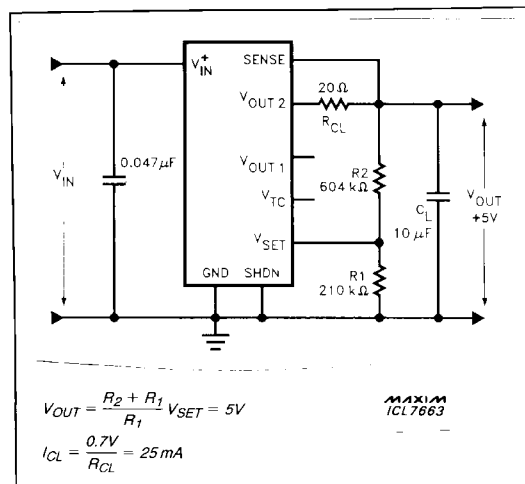

Figure 3. Maxim's Application of ICL7663 (Positive Regulator, Current Limit).
**Note 4:** This output has a positive temperature coefficient. Using it in combination with the inverting input of the regulator at  $V_{SET}$ , a negative coefficient results in the output voltage. See Figure 3 for details. Pin will not source current.
Figure 3 shows a typical positive voltage regulator using the ICL7663. The input voltage, VIN, can range from a maximum of 16V to a minimum of the output voltage plus the input-output differential. The output voltage is set by the resistors R2 and R1, and the output current limit is set by RCL. The 0.047µF capacitor on the input limits the rate-of-rise during power-up and also removes some of the high frequency noise on the input voltage. In Figure 3, the logic shutdown is not used and is therefore grounded. VOUT2 should be connected directly to SENSE if current limiting is not used.
The Maxim ICL7663A  $V_{SET}$  voltage is guaranteed to be  $1.30V \pm 25mV$ , eliminating the need for trim pots in most cases. Specifically, using the Maxim ICL7663A and the resistor values shown in Figure 3, the initial voltage will be within  $\pm 2.7\%$  of 5V, assuming  $\pm 1\%$  tolerance resistors. The output voltage will remain within  $5V \pm 5\%$ , over  $0-70^\circ C$ . This tolerance includes the effect of ICL7663A  $V_{SET}$  error, the  $\pm 1\%$  initial tolerance on both resistors, and the resistor ratio temperature coefficient of nearly  $200 \text{ ppm}/^\circ C$ . Since the resistor ratio temperature coefficient is generally much lower than the absolute temperature coefficient, 100 or 200 ppm resistors can be used, even over the full temperature range while still allowing the output to stay within 4.75V–5.25V.
The circuit in Figure 3 will limit the output current to approximately 35mA. Current limiting will start, when the output current exceeds 35mA and the voltage drop across the  $20\Omega R_{CL}$  is 500mV. For other current limits the value of  $R_{CL}$  can be calculated from the formula: